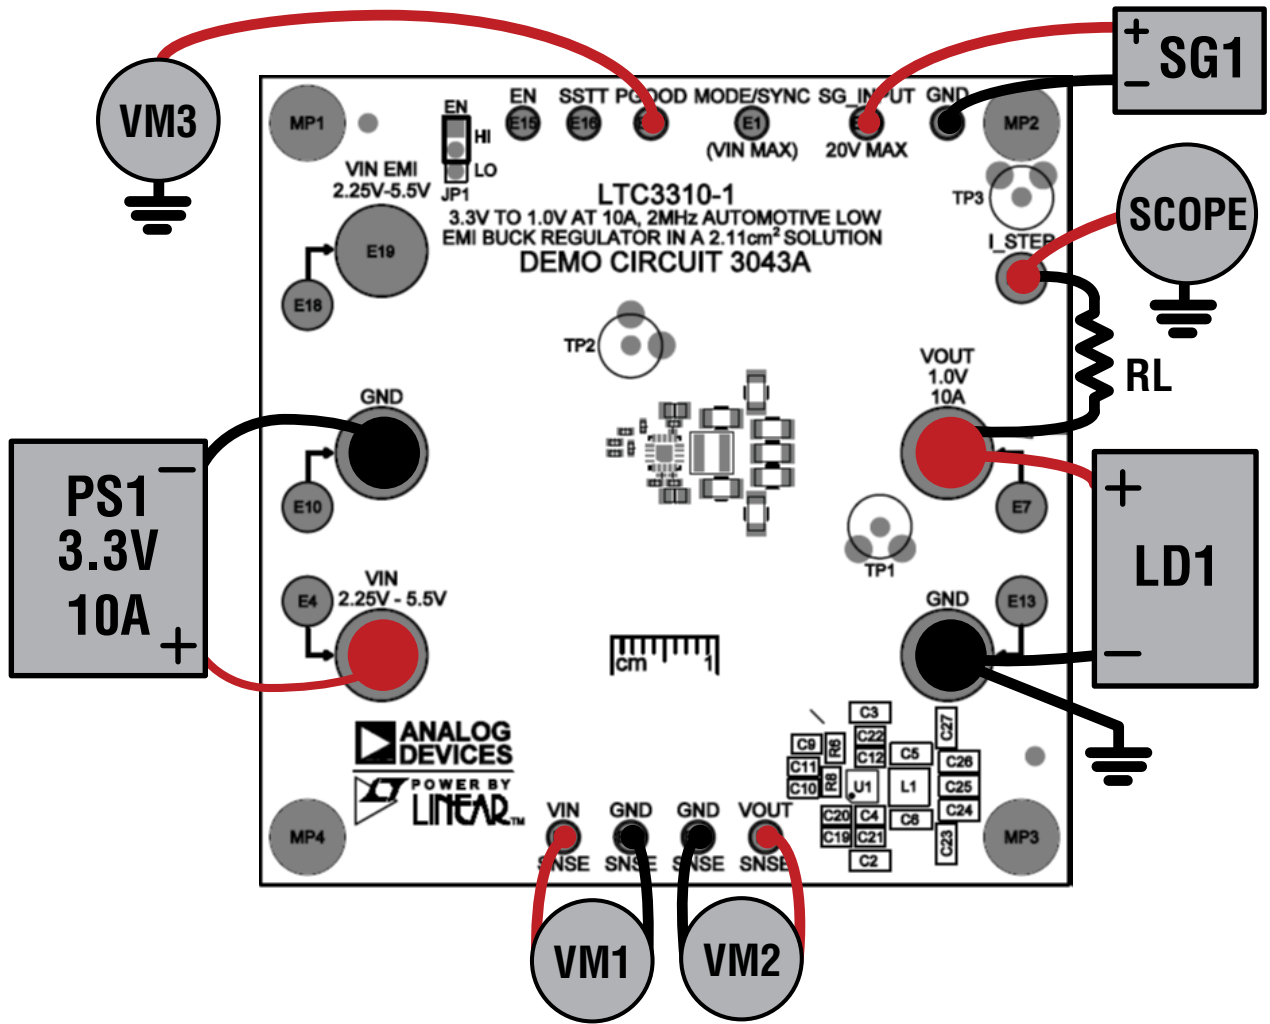

Figure 1. Test Setup for the DC3043A Demo Board
Demonstration circuit 3043A is easy to set up and evaluate the performance of the LTC3310-1. Refer to Figure 1 for proper measurement equipment setup and follow the procedure below:
NOTE: For accurate V_{IN} , V_{OUT} and efficiency measurements, measure V_{IN} at the VIN SNSE and GND SNSE turrets and V_{OUT} at the VOUT SNSE and GND SNSE turrets as illustrated as VM1 and VM2 in Figure 1. When measuring the input or output voltage ripple, care must be taken to avoid a long ground lead on the oscilloscope probe. Measure the output voltage ripple by touching the probe tip directly across the output turrets or to TP1 as shown in Figure 2.
7. To test the transient response with a base load, add the desired resistor to produce a minimum load between VOUT and I_STEP turrets (RL shown on Figure 1). Note that the total load resistance will be RL plus R10 (50m Ω). Adjust a signal generator with a 10ms period, 10% duty cycle and an amplitude from 1V to 2V to start.